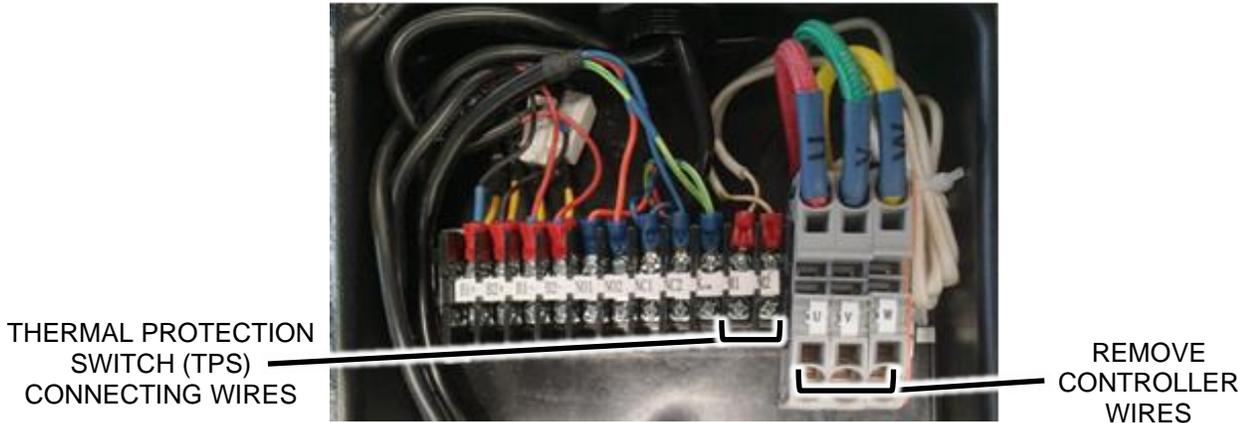

Figure 40
2. Disconnect machine power, see Figure 40.